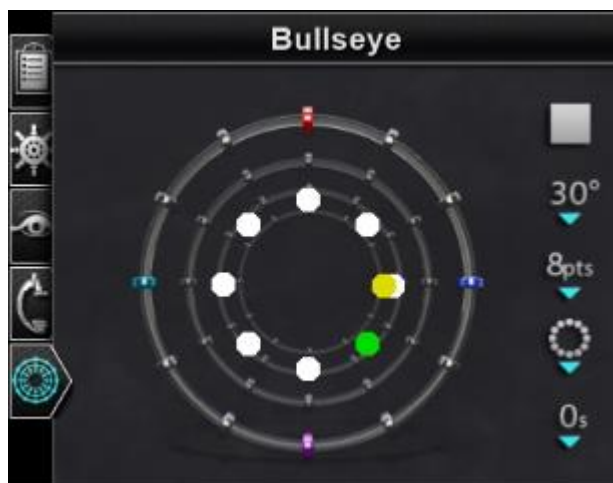

Figure 51. *Bullseye* Targeting control panel
The *Bullseye*TM Targeting control panel (**Figure 51**) provides a simple interface for navigating the catheter around a central point. The Stereotaxis *Bullseye* uses the “bull’s eye” target concept to facilitate directional movement of the catheter relative to a central position. Movements around a central axis are made by double-clicking on the target surface or via automatic sequencing. *Bullseye* movement is simultaneously visible in two places on the screen: (1) within the *Bullseye* surface itself and (2) in the Ideal Anatomy view.